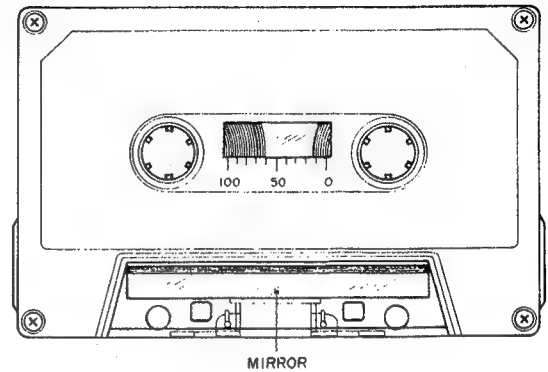

Fig. 15
- 1) When using an ordinary cassette, the tape guides and heads, etc. are not visible. As shown in Fig. 15 use a cassette tape from which part of the cassette case has been cut out and a mirror installed for easy visibility of the head area when making tape guide height adjustment.
4. When a mirror installed cassette test tape as shown in Fig. 15 is required, it can be ordered from AKAI Electric Co.